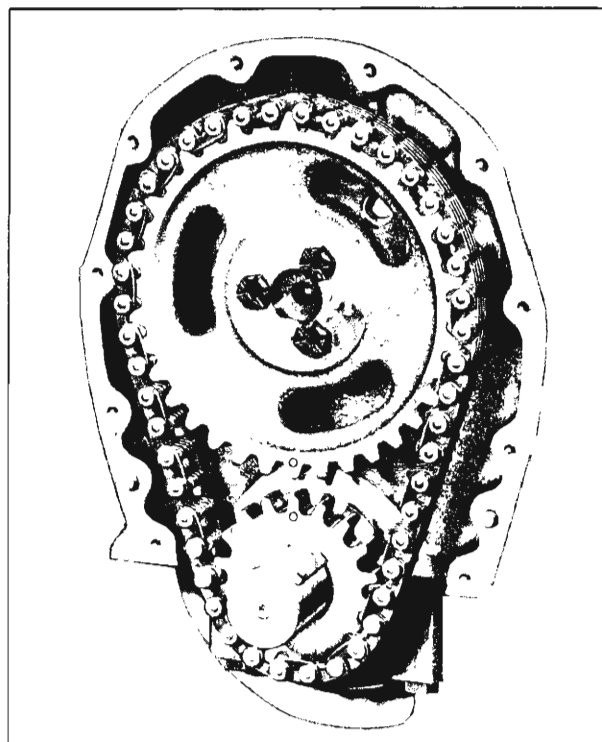

Fig. 145—Timing Sprocket "O" Marks
2. Crank engine until "O" marks on camshaft and crankshaft sprockets are in alignment (fig. 145).